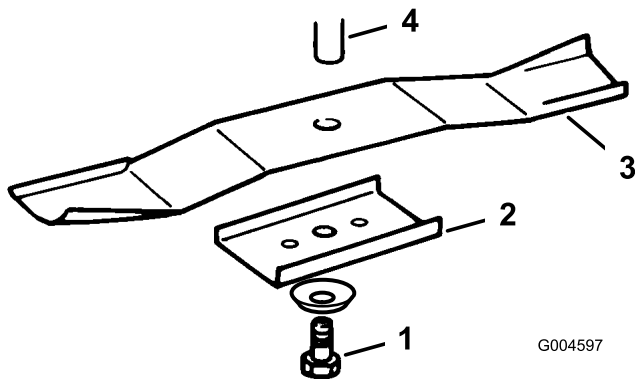

Figure 36
3. Remove the bolt (5/8 inch wrench), curved washer, retainer, and blade (Figure 36). Use a block of wood as a wedge between the blade and the mower to lock the blade when you are removing the bolt.
1. Install the blade, the blade retainer, the curved washer (cupped side toward blade), and the blade bolt (Figure 36).